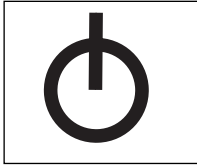

Figure 6 - Icon showing Off position
- ▶ turn the unit to the Off position (see Figure 6).